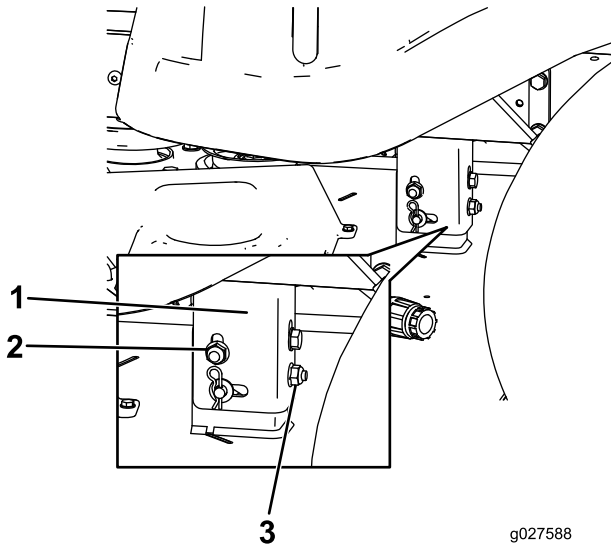

Figure 52
8. Raise or lower the left side of the mower deck by rotating the rear nut. (Figure 52).